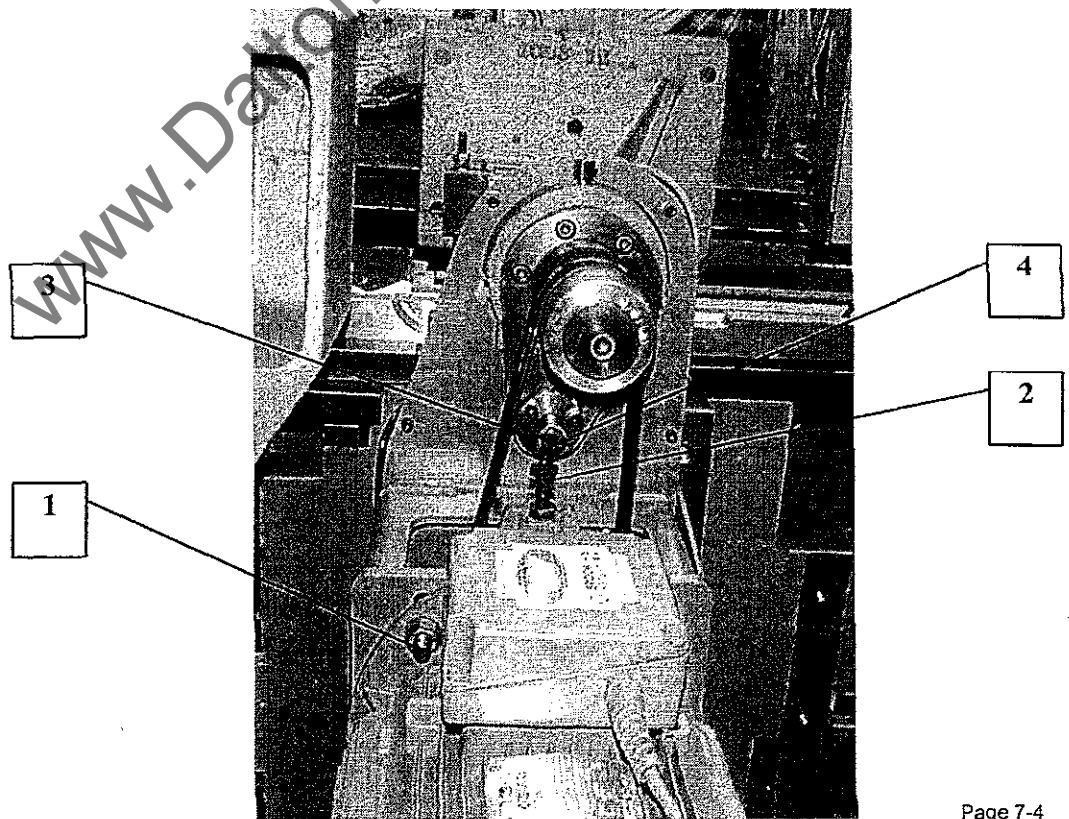

Figure 7.3.1
7.3.1 Removal of K23/K25 Horizontal Spindles (Top and Second Bottom) (Figure 7.3.1.)